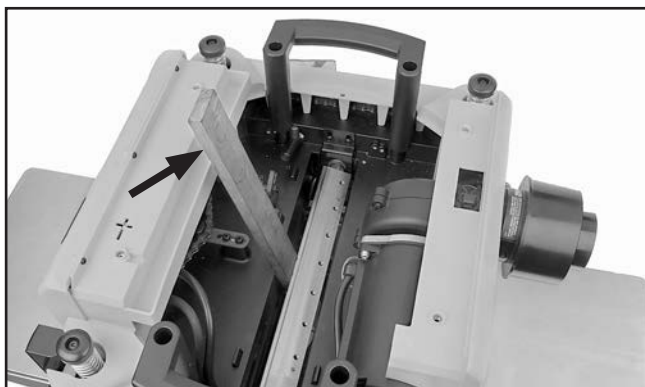

Figure 11. Wood board between cutterhead and carriage.
27. Insert a wood board at least 12" in length between cutterhead and cutterhead carriage (see **Figure 11**). Verify cutterhead no longer rotates.